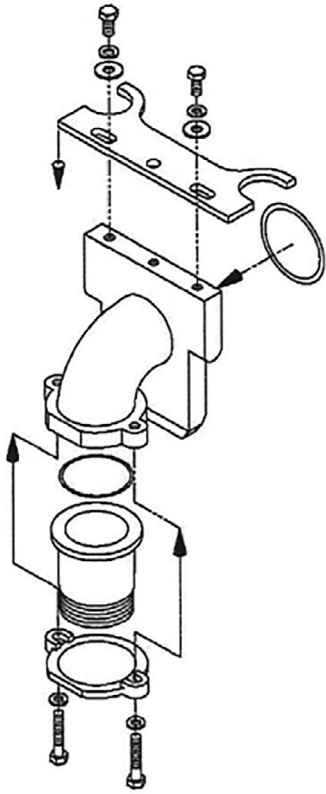

Figure 1
Figure 1 shows all the parts included with the pull-out flange assembly. This is the removable portion of the base elbow rail system assembly, and it is this assembly that will attach to the discharge of the pump (see figure 2). The threaded pump adapter flange will thread into the pump discharge as shown. The pump adapter flange is secured by tightening the two (2) long cap screws provided. This allows the pump to be oriented as
Figure 1 shows all the parts included with the pull-out flange assembly. This is the removable portion of the base elbow rail system assembly, and it is this assembly that will attach to the discharge of the pump (see figure 2). The pull out flange will bolt to the pump discharge as shown. A gasket flange should be placed between